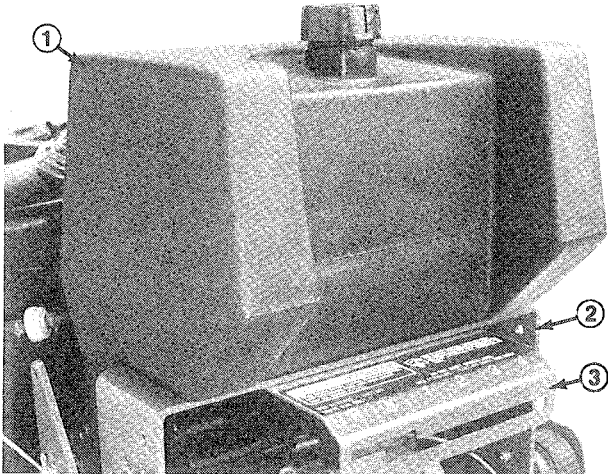

Figure 1
1. Position fuel tank onto rear frame aligning mounting holes as shown in Fig. 1.
2. Loosely mount control panel to bottom of rear frame and fuel tank with (4) capscrews, lockwashers and washers (Fig. 1 & 2). Do not tighten capscrews at this time.